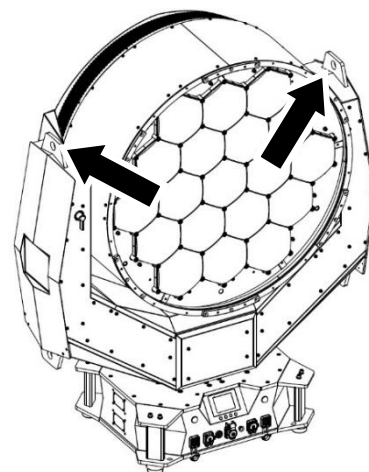

Figure 3. Lifting eyelets
4. See Figure 3. Fasten two chains or cables to the eyelets (arrowed) in the fixture yoke using shackles passed through the eyelets and fastened securely so that they cannot open accidentally.